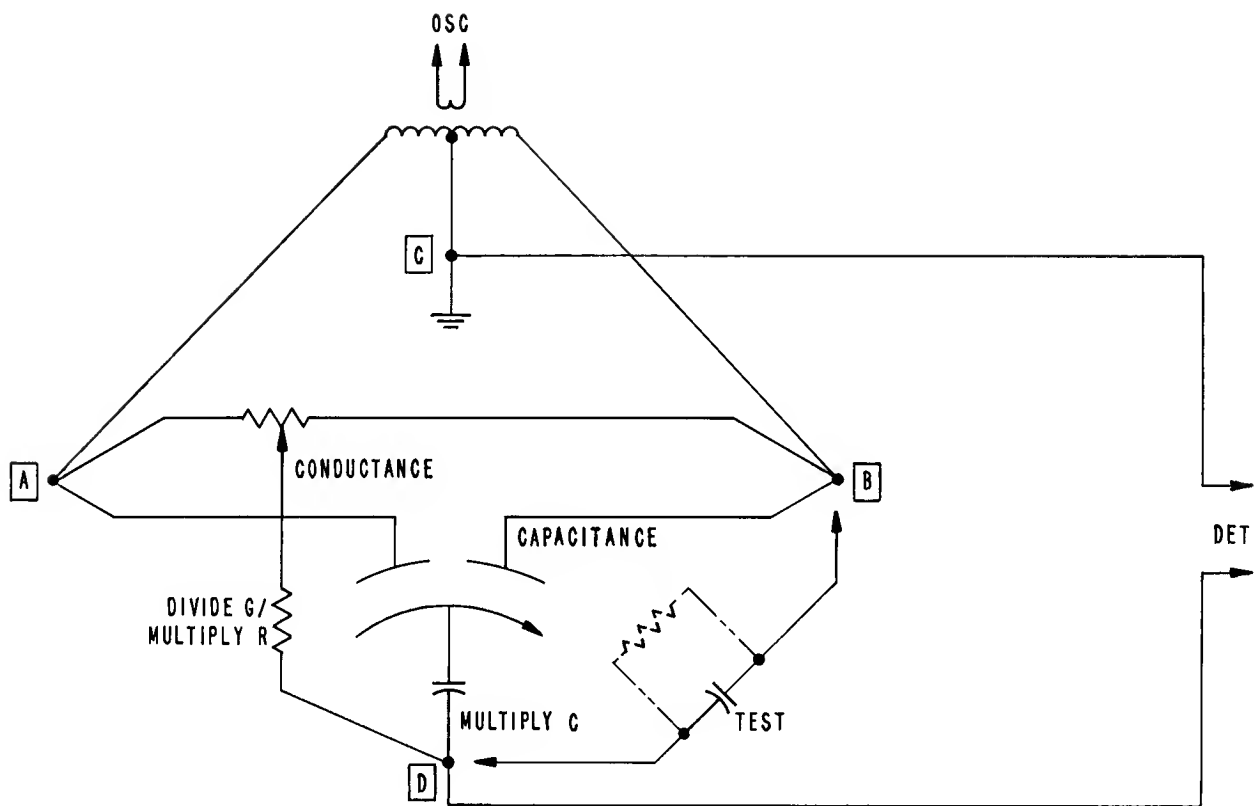

Figure 2. Basic Bridge Configuration
- 1.5.2 Bridge. The bridge network used in the 75D is a modified Young circuit. Figure 2 shows the basic configuration of the bridge in simplified form.
Referring to Figure 2, the two LO posts (A and B) are the signal-injection corners of the bridge, and the HI post (D) and ground (C) are the detection corners. When the bridge is balanced for capacitance and conductance (C and G), the impedances appearing between each of the LO posts and the HI post are equal. The voltages that are summed at the HI post are equal and opposite in phase; under this condition, the net voltage developed at the detector corner is zero and the null indicator will show a balance.
- 1.5.3 Amplifier/Detector. Although Figure 2 indicates just a detector, the 75D is actually fitted with two detectors. When both capacitance and conductance